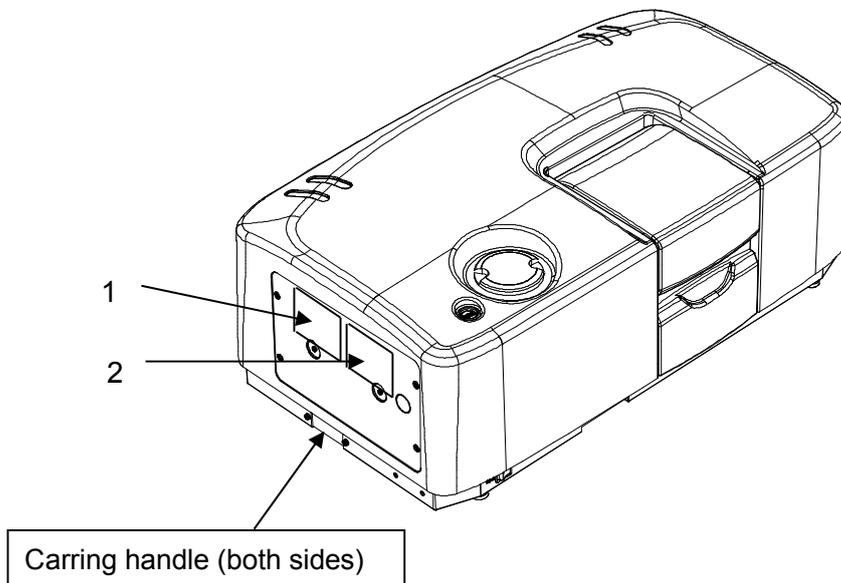

Figure 3 Left side view of P-2000
3) Warning for ULTRAVIOLET RADIATION (1 on Fig. 3)
4) Warning for HIGH TEMPERATURE (2 on Fig. 3)
The weights of the instruments are as follows: P-2000: 25 kg. When carrying the instrument, hold the carrying handle at the bottom of the instrument firmly (see Fig. 3).